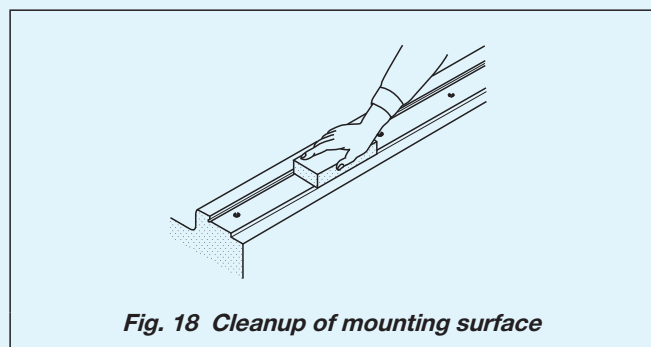

Fig. 18 Cleanup of mounting surface
- Remove burrs and blemishes by using oil-stone, etc. from reference mounting surface and mounting surface of the machine or the device to which Linear Way is mounted and wipe off with clean cloth. (see Fig. 18)